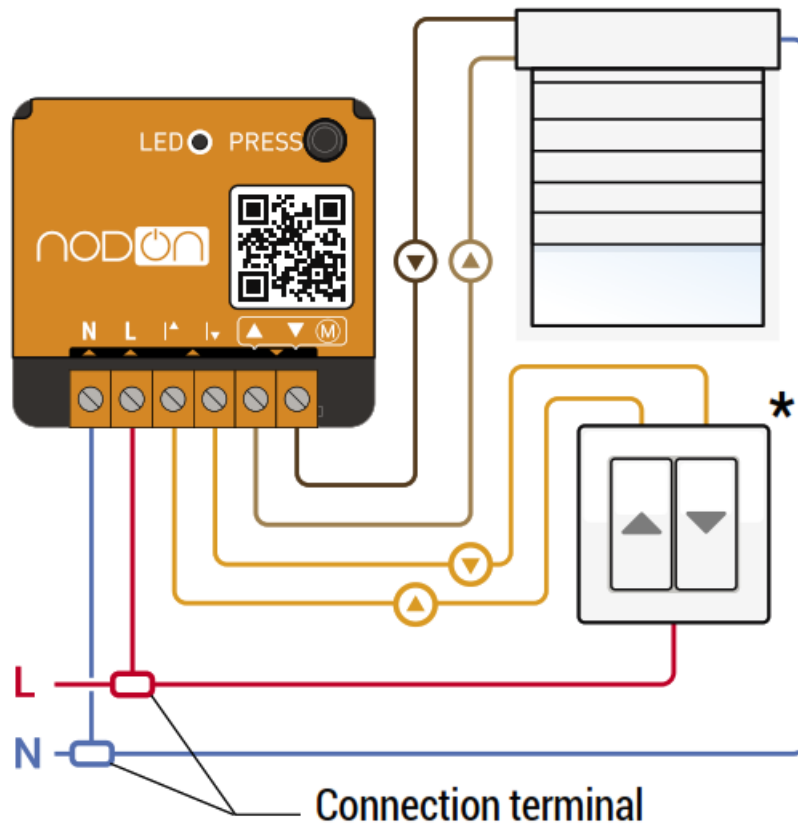

Figure 1
3. Wire the Relay Switch according to the diagram in figure 1.